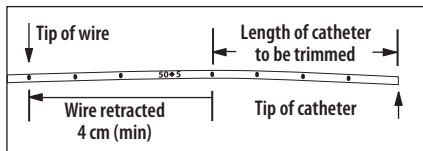

Figure 2
- Withdraw stiffening stylet through septum to retract wire a minimum of 4 cm behind catheter cut location (refer to Figure 2).